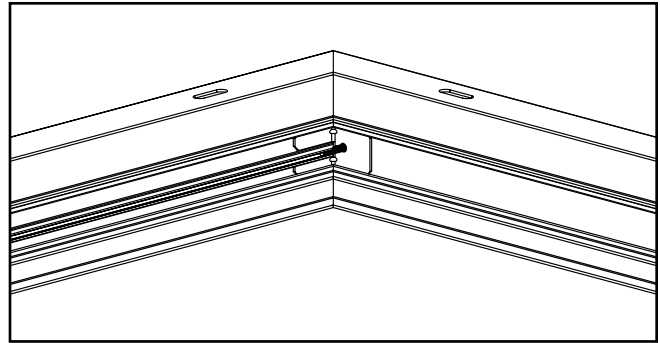

**Figure 2.**
2. Slide adjacent frame into place so that the clearance holes line up with those in the L - bracket. (Figure 2.)